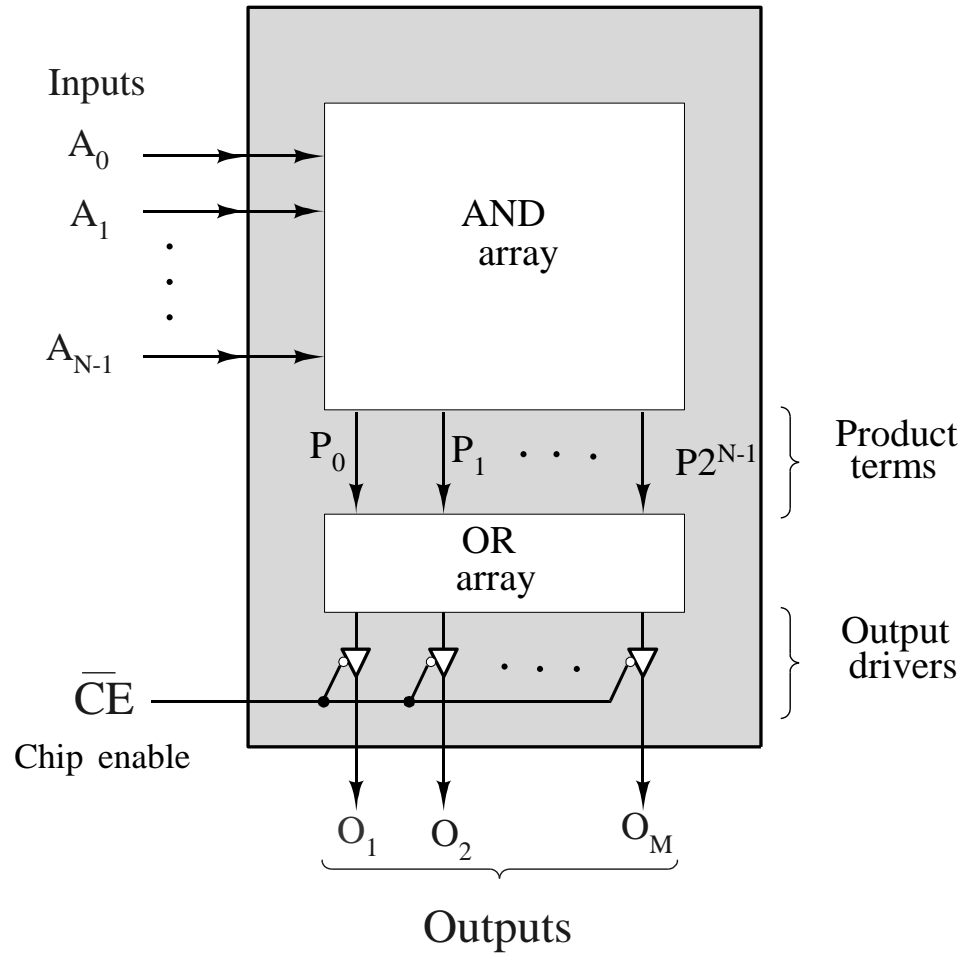

Figure 5.22
- Figure 5.22 illustrates the organization of most typical commercial PROMs.